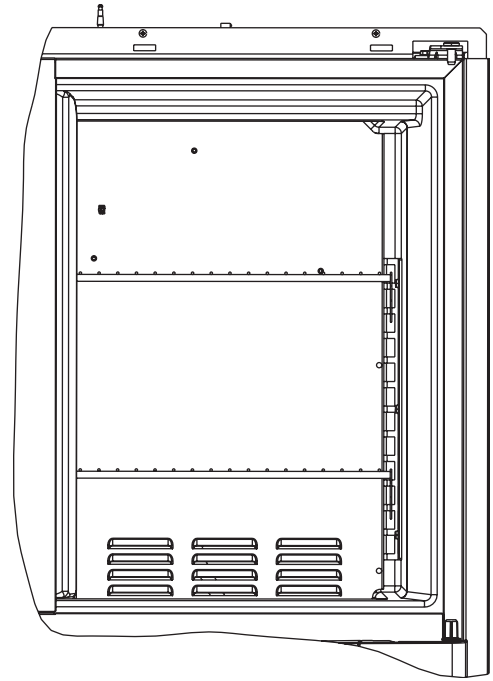

Figure 7-4. —Freezer fan shroud.
3. Remove the freezer fan shroud. See Figure 7-4.